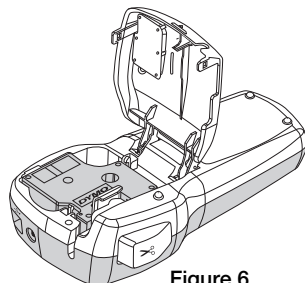

Figure 6
- 3 Insert the cassette and press firmly until the cassette clicks into place. See Figure 6.